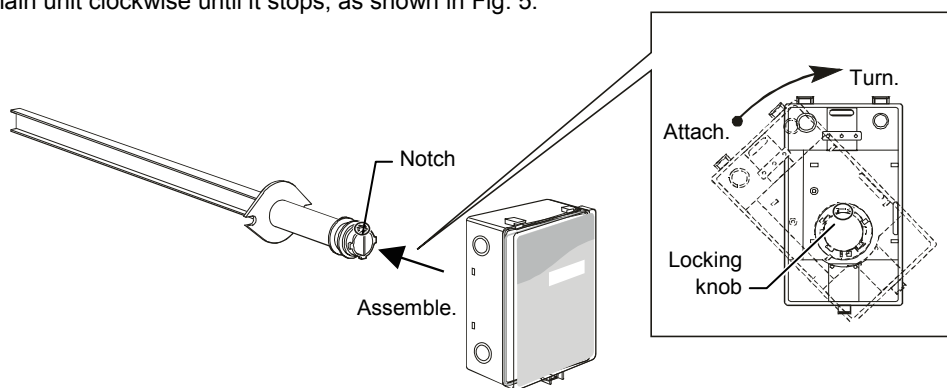

Figure 5. Assembling the main unit with the sampling probe
- 2) Turn the main unit clockwise until it stops, as shown in Fig. 5.